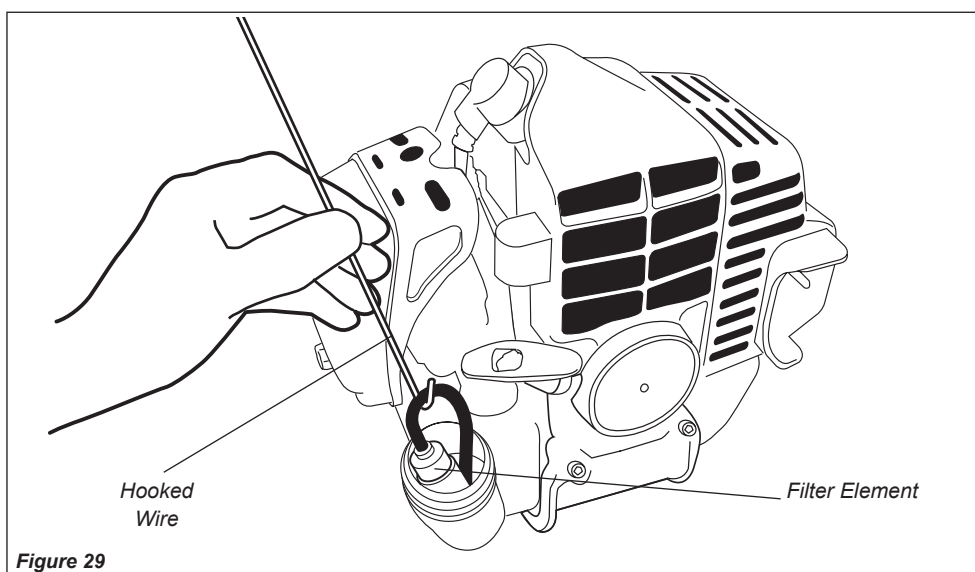

Figure 29
- Use a hooked wire to extract the fuel filter from inside the fuel tank. See Figure 29.